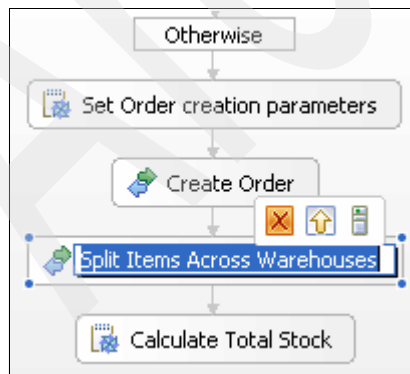

Figure 3-187 Adding invoke Split Items Across Warehouses
2. Add an Invoke activity below Create Order and name it Split Items Across Warehouses as shown in Figure 3-187.